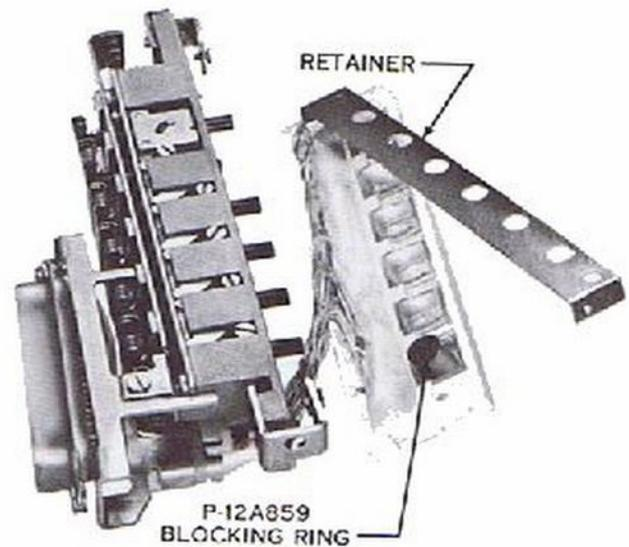

Fig. 31 – Method of Placing Blocking Ring
8.12 To place P-12A859 blocking ring in key (Fig. 31):